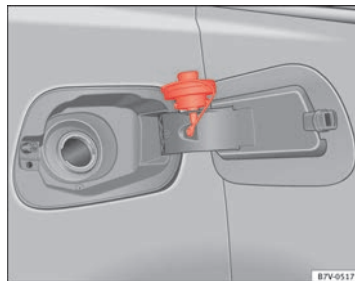

Fig. 166 Open tank flap with tank cap attached to the holder
- Unscrew the tank cap anticlockwise and insert it in the hole in the tank flap hinge ⇒ Fig. 166.